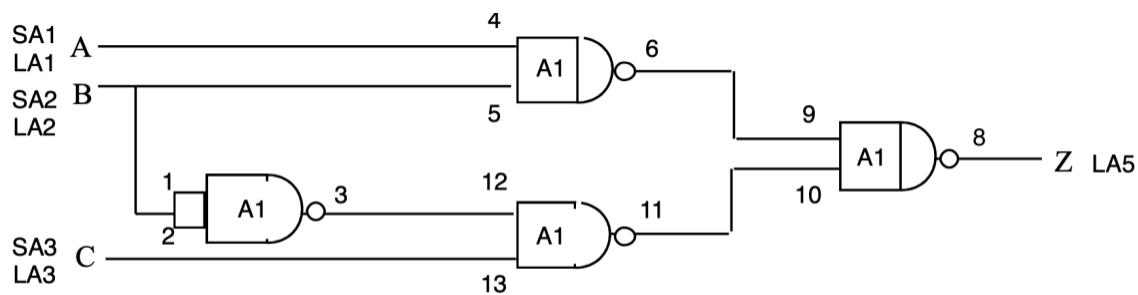

FIGURE 16. Single chip implementation using one 7400 Quad 2-input NANDs
Due to the space/chip resources inefficiency and the lack of availability of these chips, we decided to convert this design to a NAND-NAND circuit (shown in Fig 16\*). The reason is that NAND is a universal gate, so we would only require one type of gate (NAND Gate) for the implementation of the Boolean Expression, indicating that we would only need a single 7400 quad 2-input NAND chip. Once we decided to use the NAND gates for the system, we redrew the circuit diagram and constructed a new version on our breadboard (shown in the Fritzing diagram).
- a. *Not all groups may observe static hazards (why?) If you do not observe a static hazard, chain an odd number of inverters together in place of the single inverter from Figure 16 or add a small capacitor to the output of the inverter until you observe a glitch. Why does the hazard appear when you do this?*